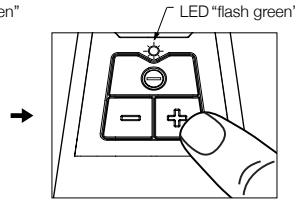

Figure 3
3. Adjust the speed by pressing "+" or "-" buttons on the button plate. Press "+" is to raise up to higher speed setting, "-" is to lower the speed setting. - see figure 3.